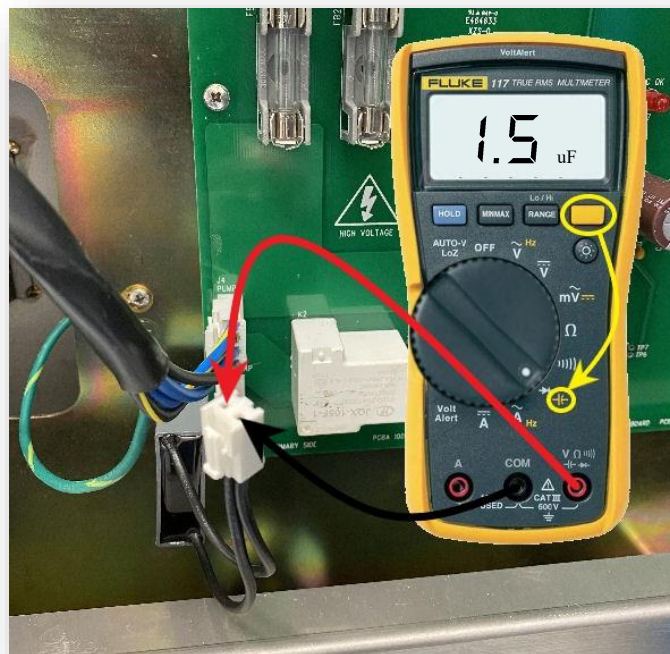

Figure 24 – Run Capacitor Test
- b. To test the start capacitor, the capacitance can be measured with a multimeter that has a capacitance measurement setting  $\rightarrow \text{---}||\text{---}$ . The Selection button on the multimeter may need to be pressed to enable the Capacitance setting (**See Figure 24**). The capacitor should read  $\sim 1.5 \mu\text{F}$ .